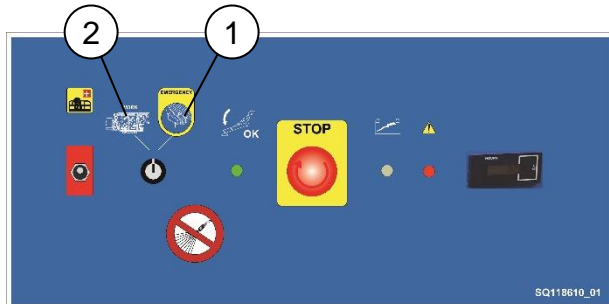

fig. 4.4.1
2. rotate the selector switch to the "Emergency controls" position (**pos. 1 fig. 4.4.1**)
3. press the valve knob that controls the desired movement and simultaneously use the speed control lever (P) returning the enclosure to the stand-by position
4. after performing the recovery operations, turn the selector switch to the "Work Platform Controls" position (**pos. 2 fig. 4.4.1**).